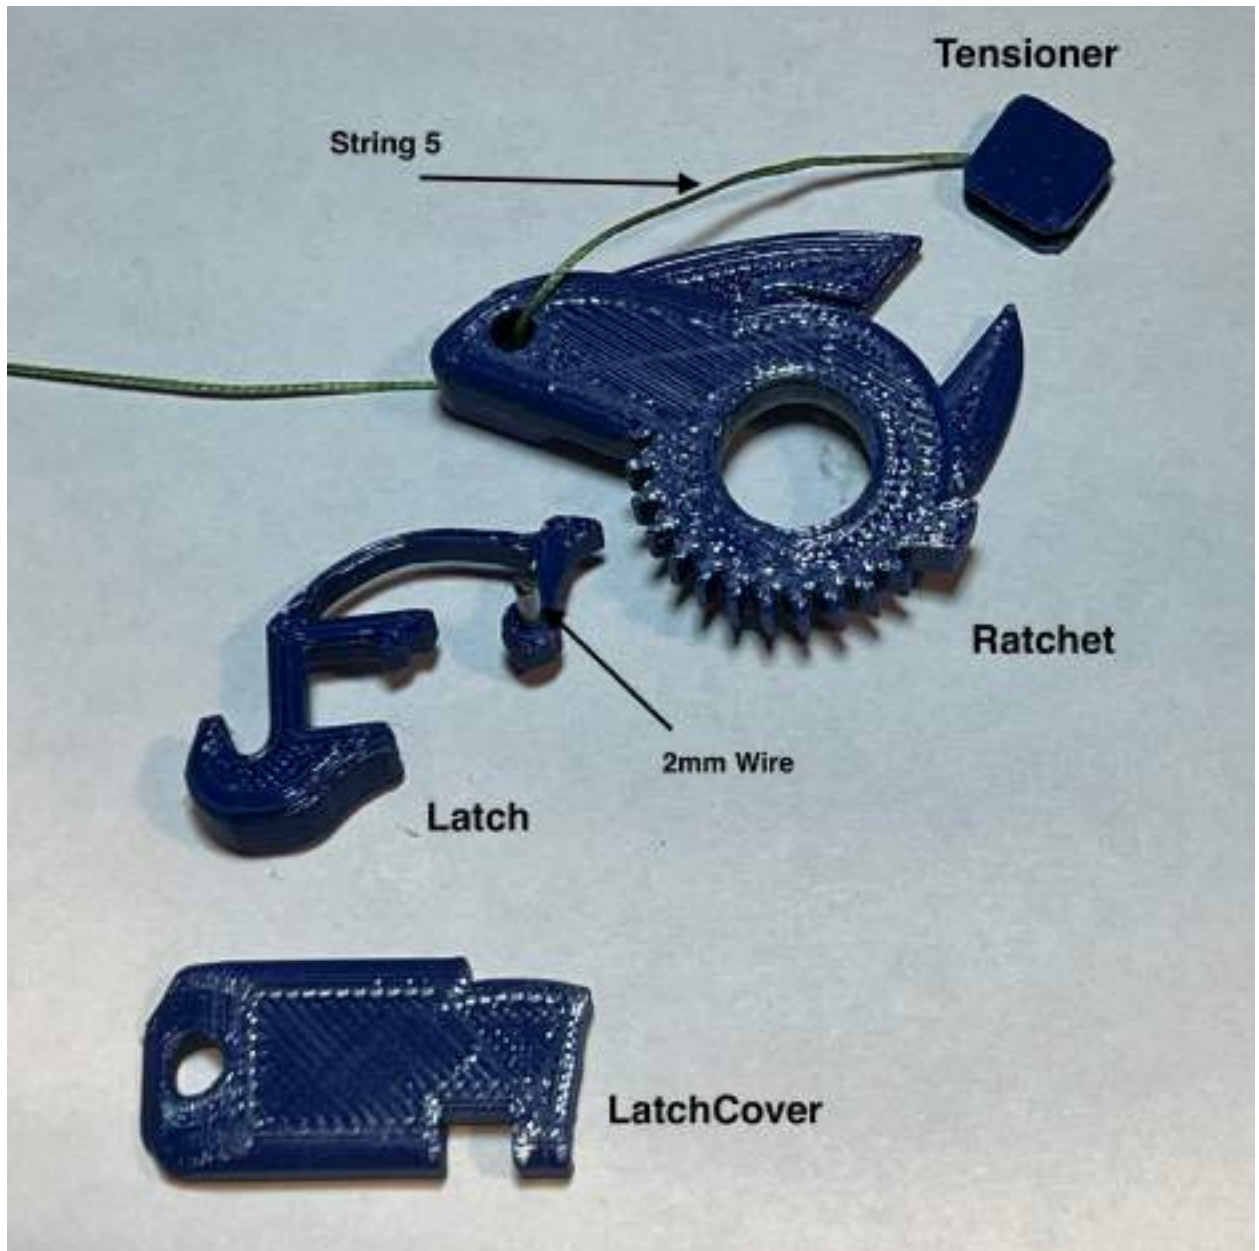

Figure 6: Latch Mechanism
1. Prepare to assemble the latch mechanism—Latch, LatchCover, Ratchet, and Tensioner onto the UpperArm. See Figure 6.
5. Insert the Tensioner in the slot in the side of the Ratchet (see Figure 6). It should fit in all four of the possible orientations. Some trimming of the Tensioner may be required in certain orientations.
8. Cut String 5 such that it extends past the Ratchet on the forearm. Thread the free end of the string up through the hole in the Ratchet as shown in Figure 6, then remove the Tensioner from the Ratchet and tie it to the Tensioner through the center hole in its axel. Super glue both knots in String 5. Wind string 5 around the Tensioner to tighten and reinsert the Tensioner into the Ratchet slot.